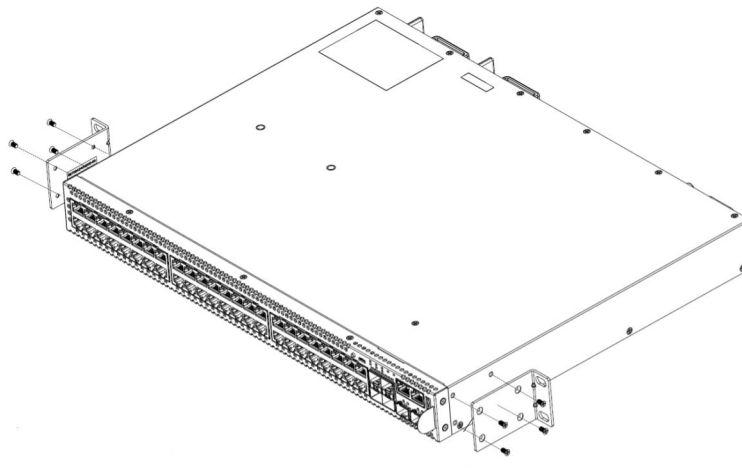

Figure 46: Mid-Mount: Attaching Short Mounting Brackets
- Figure 46 shows a mid-mount configuration using a short mounting bracket.